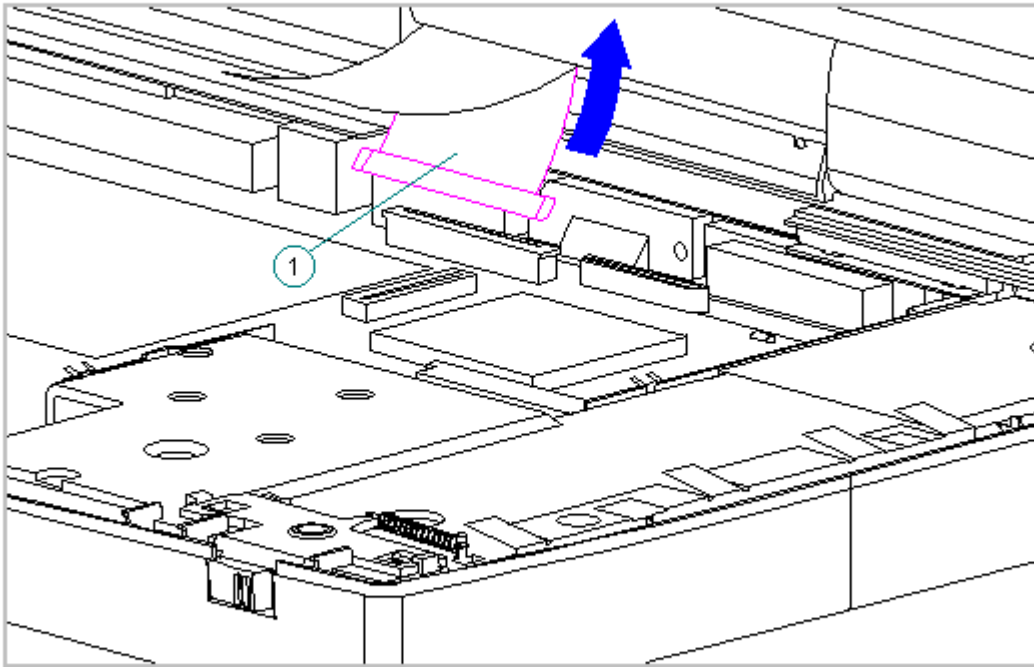

Figure 3-50. Disconnecting the Display Ground Cable (All Models)
12. Disconnect the display ground cable [1] from the LIF clip above the serial port connector (Figure 3-50).